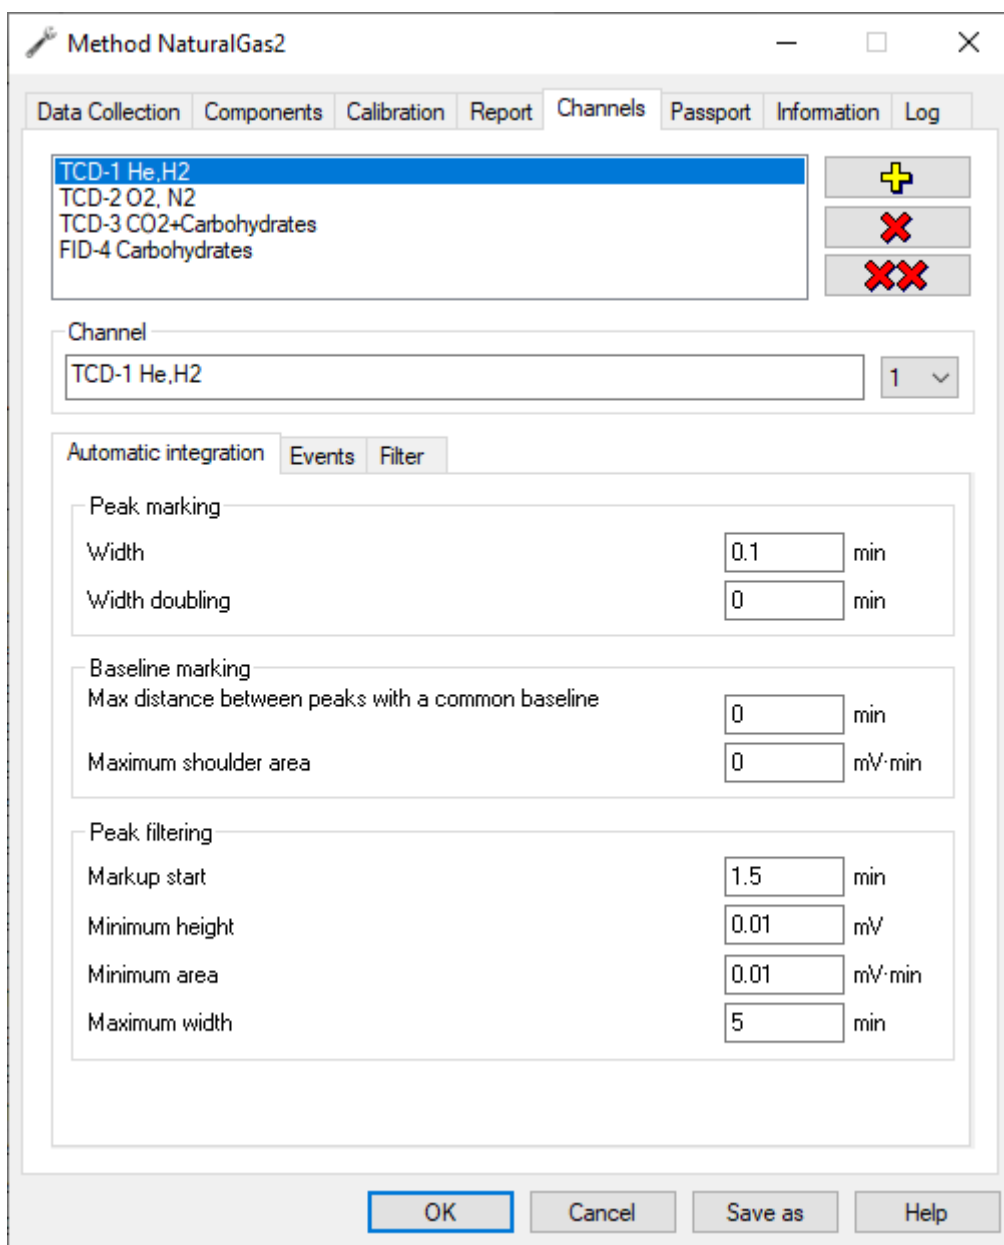

Fig. 52: Method > Channels
2. In the *Method* window, go to the *Channels* tab (Fig. 52).